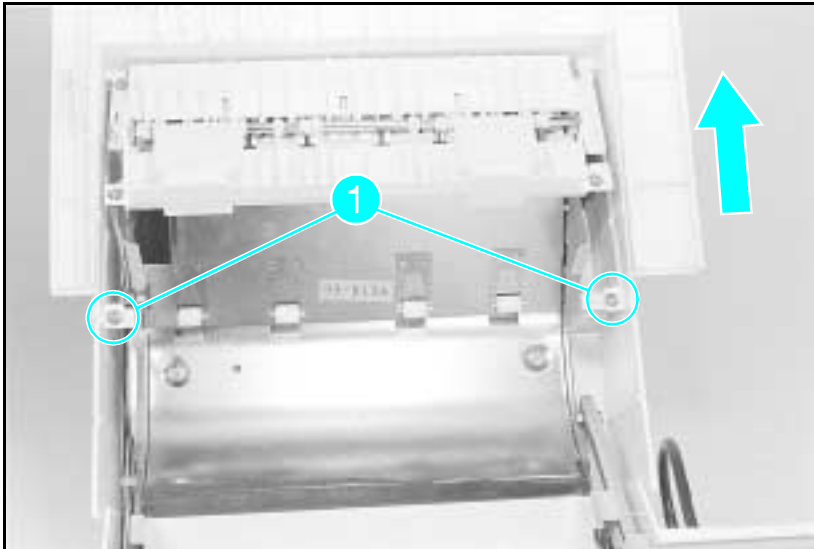

Figure A-5 **Switchback Cover**
- 1 Remove the (2) screws shown in Figure A-5, callout 1.